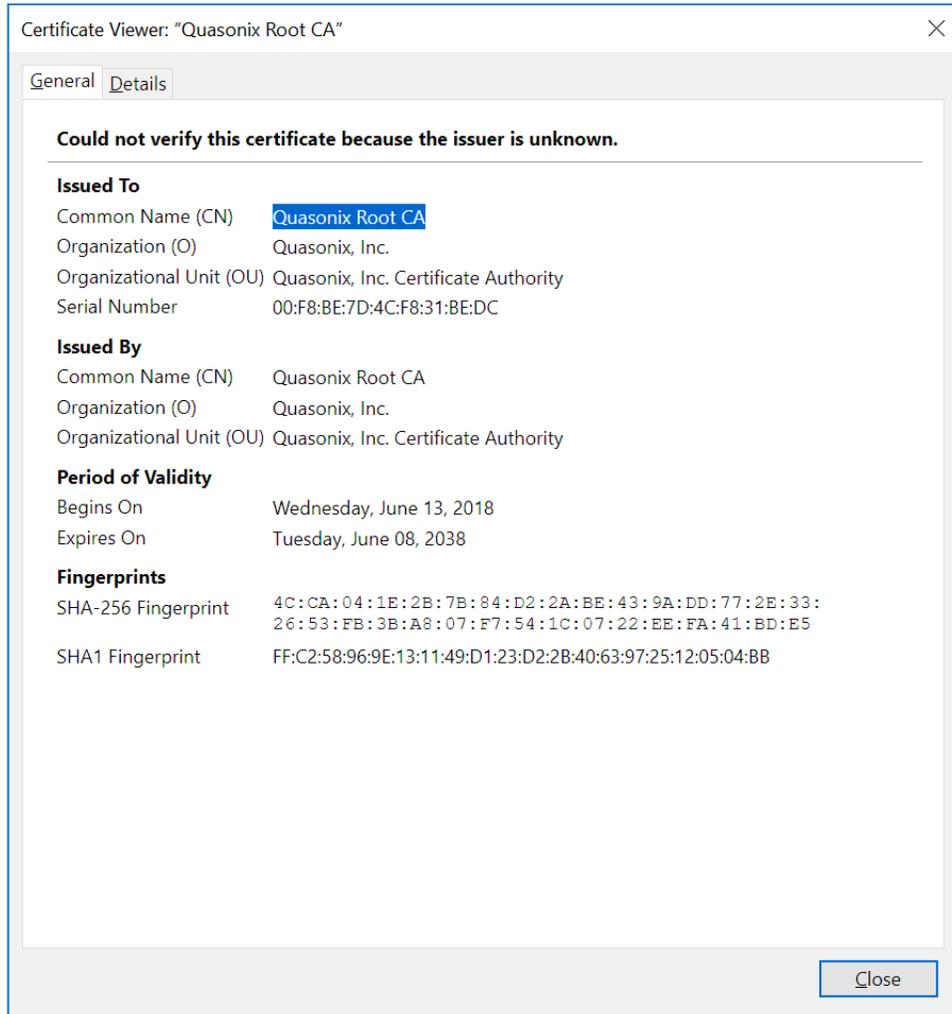

Figure 173: Firefox Certificate Viewer-Quasonix Root CA
8. Click on the View button to examine the certificate. It should match the one shown in Figure 173.